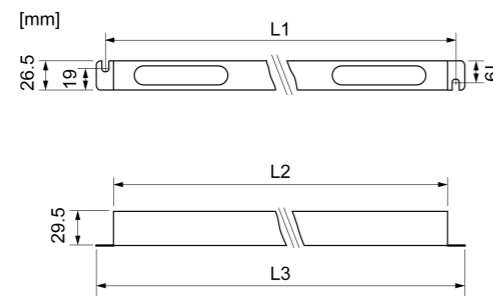

Figure 4: Dimensioned drawing
- i** Prepare boreholes in the groove for the fastening of the luminaires. Observe dimensioned drawing for the distance of the boreholes (Figure 4).